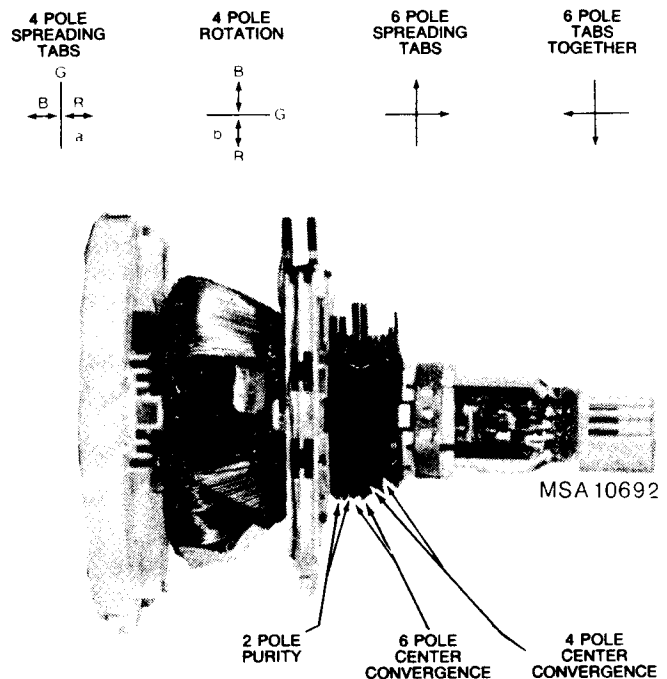

Fig. B5-1 Adjustable Beam Bender
7. The purity tabs are the front most pair of tabs on the adjustable beam bender assembly when viewed from the rear of the picture tube (Fig. B5-1). Starting with the tabs together and pointing straight up (12:00 O'Clock) or straight down (6:00 O'Clock), spread the tabs an equal distance apart from the vertical center-line until the green vertical "bar" is centered horizontally on the screen as shown in Fig. B3-1. DO NOT rotate the pair of purity rings together (in the same direction) either CW or CCW away from the vertical center-line unless the raster requires vertical centering. Rotating the rings together will decrease the effect of the two pole magnets on the desired horizontal movement of the green beam but will introduce vertical offset (centering) to the raster.
2. Loosen beam bender assembly locking ring (Fig. B5-1) so that convergence rings can be moved without binding. Do not loosen locking ring any more than necessary.